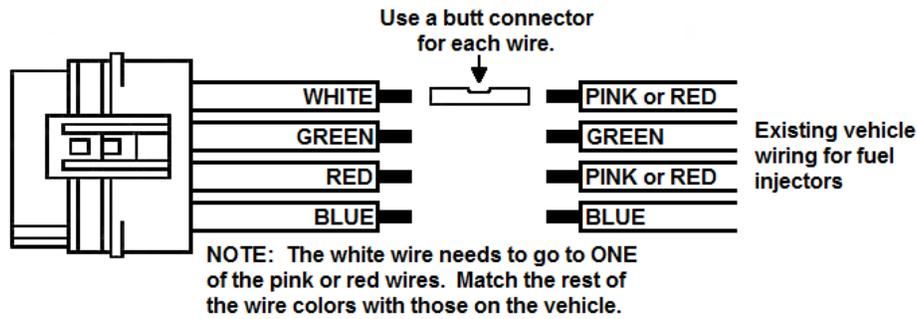

Figure 3
- Cut the (4) injector wires about 12" from the factory injector connectors. Strip 1/4" of the insulation from the wires left on the vehicle. Connect these to the wires on the harness adapter assembly by using the butt connectors provided. If all wire colors match one for one, connect them. If they do not, see **Figure 3**. The white wire needs to go to ONE of the pink, red, or white wires. MATCH the remaining wire colors with those on the vehicle.